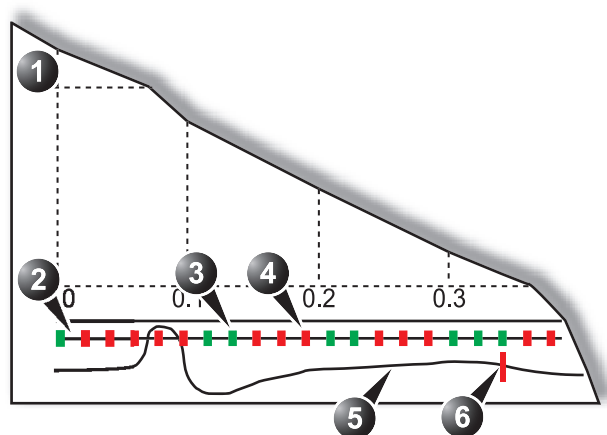

Figure 6-2: Frame disabling
1. Select the **Frame marker** beneath the *Analysis window* (see Figure 6-2).
2. Press the **Right mouse button** on the frame marker of the frame of interest in one of the heart cycles (see Figure 6-2).